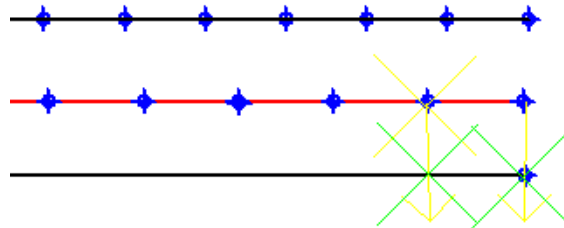

Figure 2-56 Cross-marks indicating the location of the point
3. Click at the start point of the alignment to specify as the first point, refer to Figure 2-56; you are prompted to specify the direction.
13. Specify the description and the elevation as specified in steps 7 and 8; a point is displayed on the line, refer to Figure 2-56.